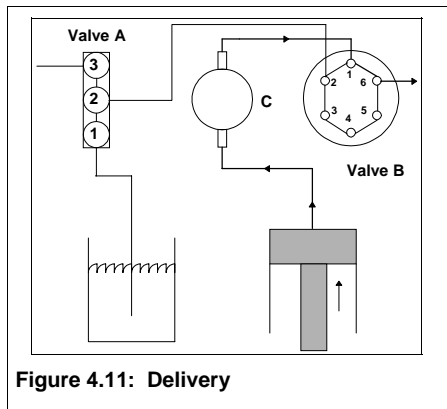

Figure 4.11: Delivery
Figure 4.11 illustrates the flow schematic when the syringe is delivering to the output. When the syringe is delivering to the system output, ports 1 and 6 of valve B are connected. When the syringe moves forward, fluid is pushed through the line connecting the syringe to the pressure transducer (C) and the line connecting the transducer to valve B. The fluid is transferred to port 6 of valve B and out the line connected at that point.